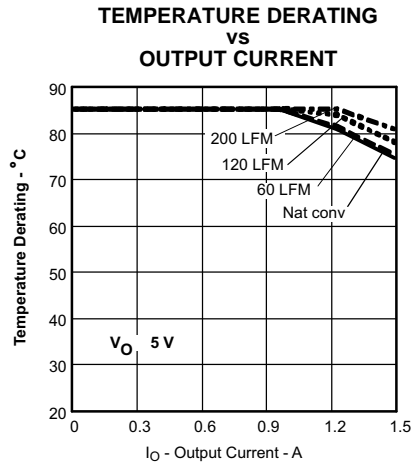
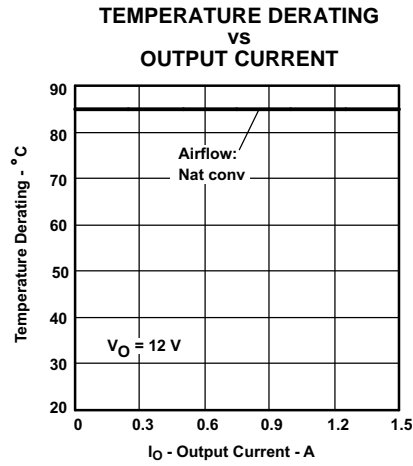

Figure 8.
Figure 9.
- (2) The temperature derating curves represent the conditions at which internal components are at or below the manufacturer's maximum operating temperatures. Derating limits apply to modules soldered directly to a 100-mm x 100-mm, double-sided PCB with 2 oz. copper. Applies to Figure 8 and Figure 9.